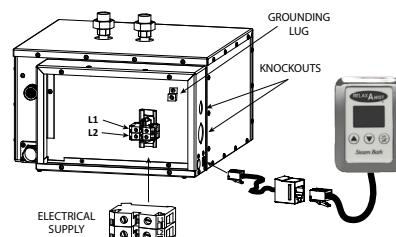

Fig. 6
- Connect the two copper wires from the power supply, one to each of the red and black Relax-A-Mist® wires inside the electrical box. See **Fig. 6.**